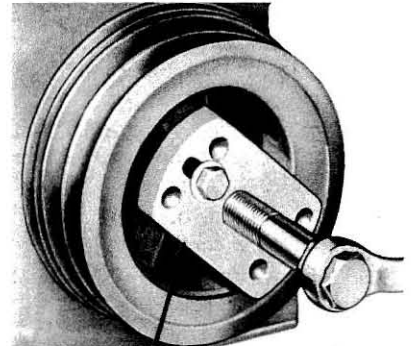

FIG. 15—Damper Removal
7. Install the puller on the crankshaft damper, then remove the damper (Fig. 15).